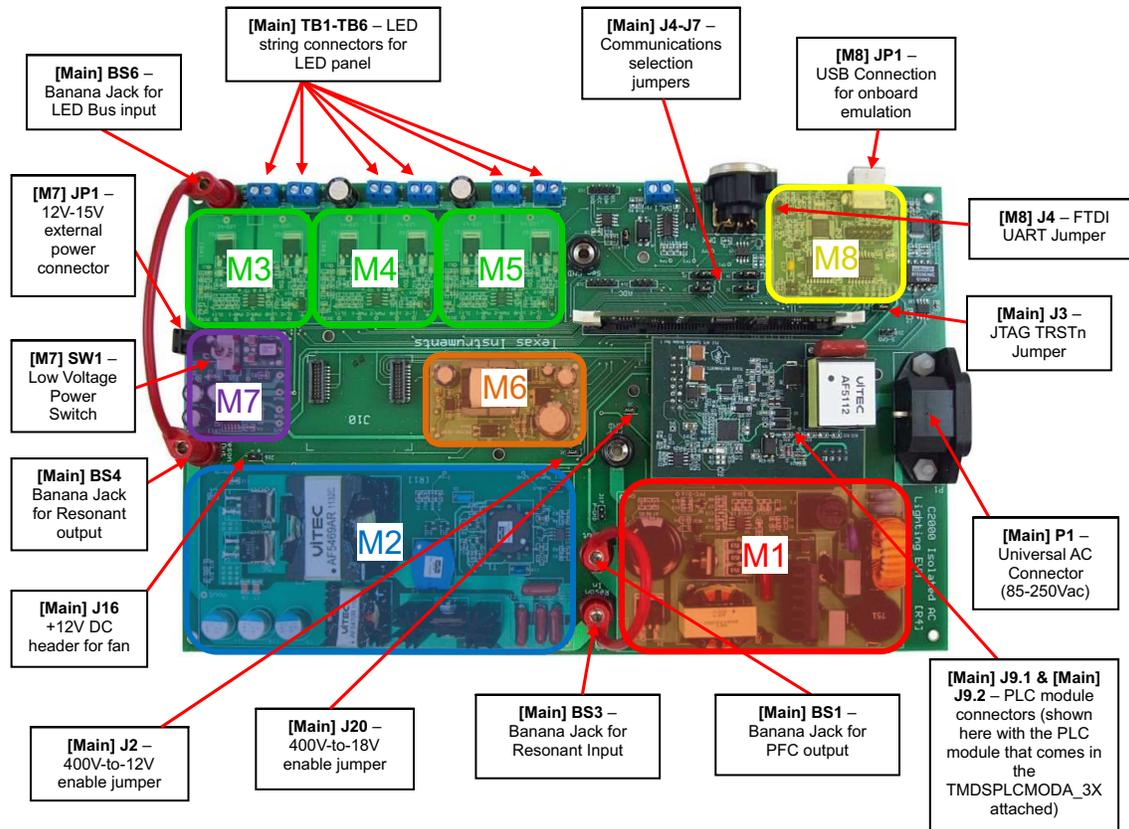

Figure 3. TMDSIACLEDCOMKIT Key Features
Listed in Figure 3 are some of the major connectors and features of the AC LED Lighting and Communications (TMDSIACLEDCOMKIT) board.
2. Move or place the following jumper on the TMDSPCKIT-V3 board (see Figure 3):